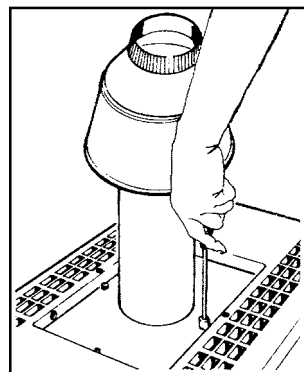

Figure 12.
11. Seat the adapter plate on the top assembly, and secure it with screws supplied in the kit (see Figure 12).